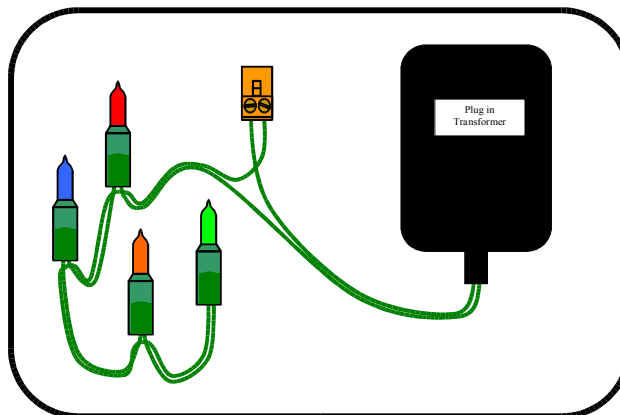

Figure 3
- 2.6 Repeat steps 2.4 & 2.5 for the other wire into the other hole in the connector. The finished result is shown in Figure 3.